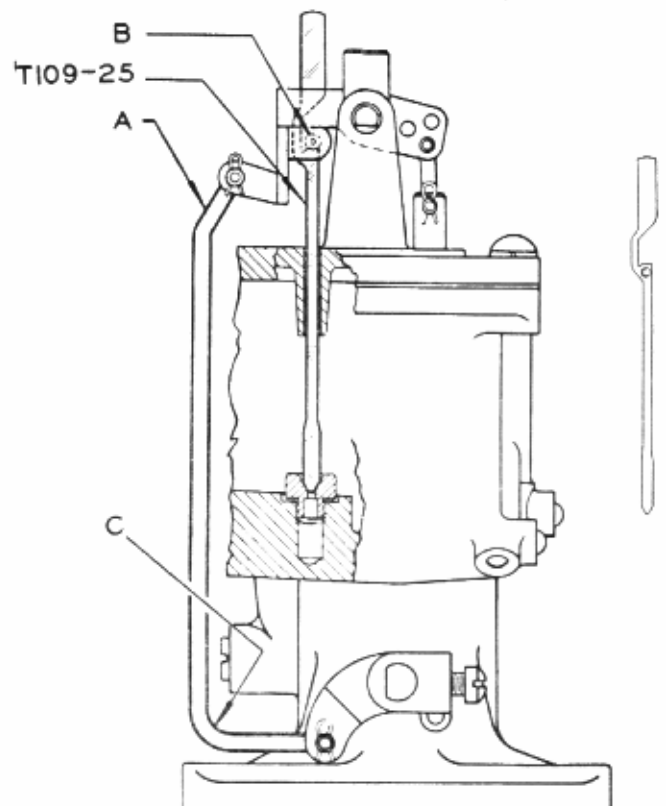

Fig. 10
To adjust metering rod back out throttle lever set screw, so that throttle valve is seated. Install gauge T109-25 in place of metering rod, (see Fig. 10). Disconnect upper end of throttle connector rod (A). Metering rod pin (B) is now resting on shoulder of metering rod gauge. Throttle connector rod (A) should slide freely into hole in pump arm.